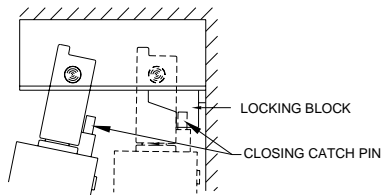

Fig. 1-5
- A. After all of the vertical channels have been locked finish closing by pushing the leading channel to the closing side. Engage the closing catch pin with the locking block as shown in Fig. 1-5
- A. After all of the vertical channels have been locked on both sides, finish closing the gate by pushing the leading channel of one side to the center of the closure. Do the same for the leading channel of the other side. Engage the closing catch pin with the locking block as shown in Fig. 1-5.